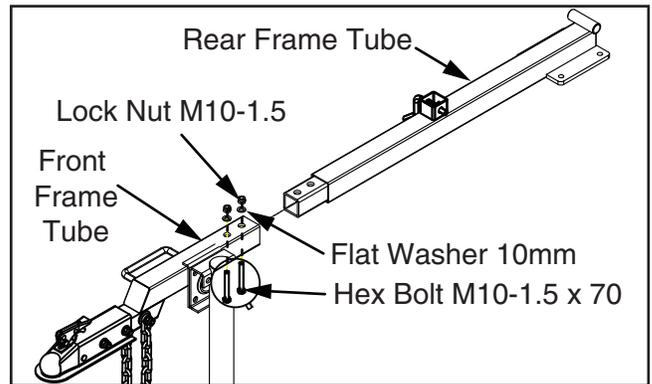

Figure 12. Installing front frame tube onto rear frame tube.
6. Attach front frame tube with support leg to rear frame tube with (2) M10-1.5 x 70 hex bolts, (2) 10mm flat washers, and (2) M10-1.5 lock nuts (see **Figure 12**).